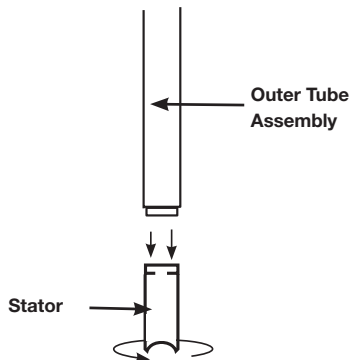

Figure 7
9. Remove the stator from the pump tube body by turning clockwise (see Figure 7).
- Thread stator can onto pump body (see Figure 7).